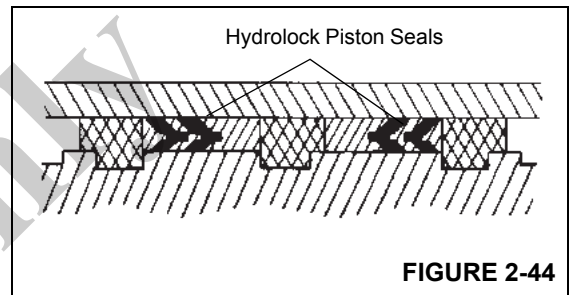

FIGURE 2-44
9. Install the replacement hydrolock seals Figure 2-44 on the outside of the piston. Make sure the "vees" on the two hydrolock seals point at each other.